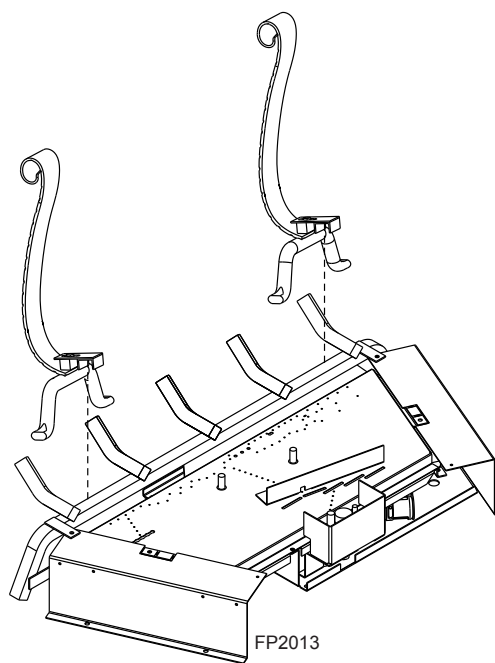

Figure 30 - Attach Andirons to Grate
2. The andiron bracket clips over the lower horizontal grate bar. *Figure 30*